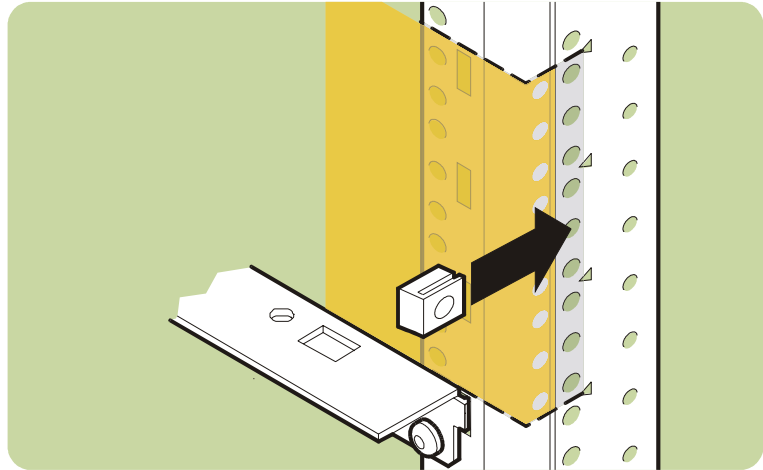

Fig. 26. Installing enclosure clip nuts in HP Computer Cabinet
7. Install one clip nut each on the right and left front columns (see Fig. 26). (Use the black arrow on the template as a guide.)